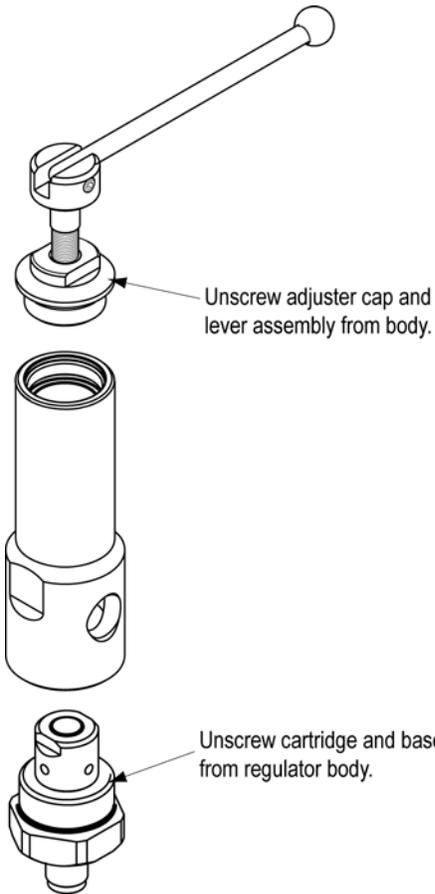

Figure 4. Initial Disassembly
- b. Remove adjuster cap and lever assembly from body by unscrewing counter-clockwise (See Figure 4).